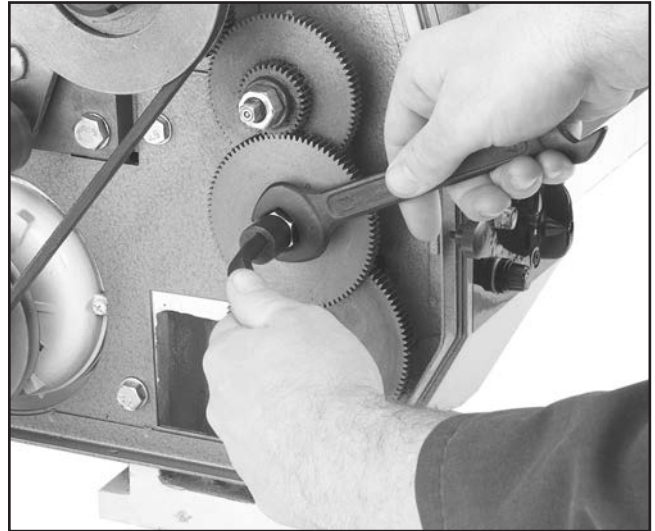

Figure 38. Removing hex nuts from adjustable shafts with a 19mm wrench.
3. Hold the adjustable shaft in place with the shaft wrench and use a 19mm wrench to remove the hex nuts on the upper and lower adjustable shafts as shown in **Figure 38**.